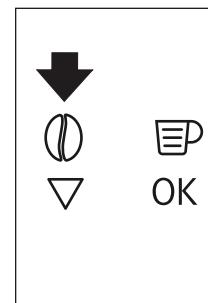

Fig. 15
- Press the $\text{\circle{1}}\text{\circle{2}}$ icon (B4) (Fig. 15) and select the pre-ground coffee function.